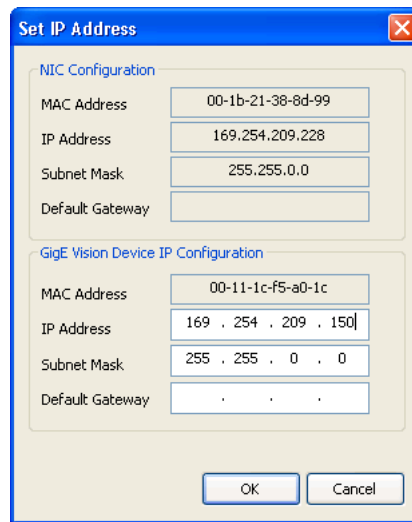

Figure 2.6: Setting IP address
- Select a valid IP address for selected camera (see Fig. 2.6). There should be no exclamation mark on the right side of the IP address. Click on Ok in the Set IP Address dialog. Select the camera in the GEV Device Selection dialog and click on Ok.